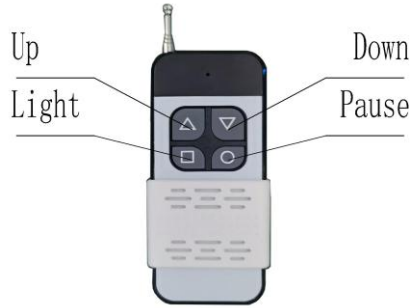

Fig 6.1
(1) Method 1: Use the handheld remote control (Figure 6.1).press the Up button or Down button to control the lifting of the pool cover, and press the pause button to stop lifting.